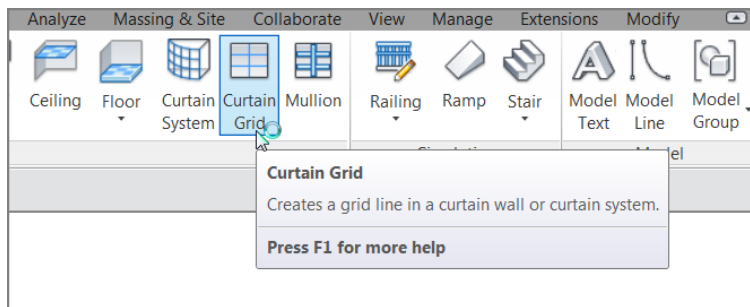

FIGURE 16.30 Click the Curtain Grid button on the Build panel of the Architecture tab.
1. On the Build panel of the Architecture tab, click the Curtain Grid button, as shown in Figure 16.30.